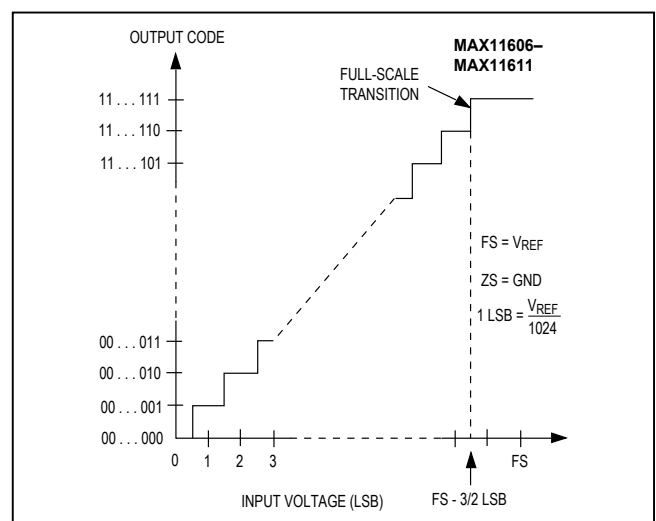
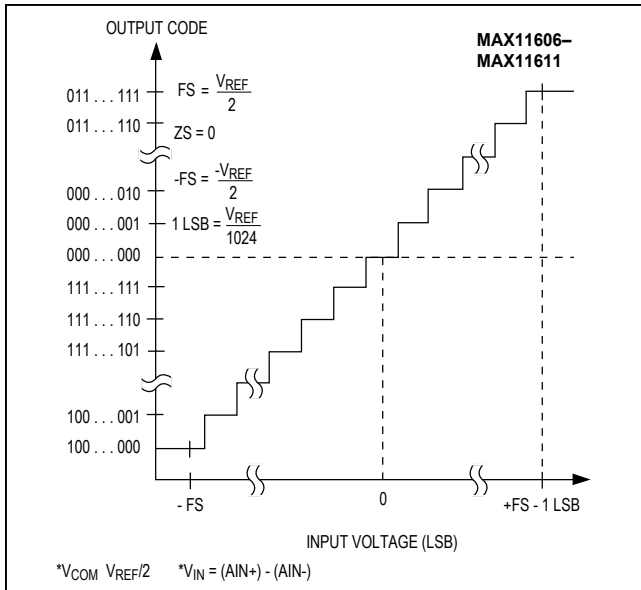

Figure 12. Unipolar Transfer Function
Figure 13. Bipolar Transfer Function
Output data coding for the MAX11606–MAX11611 is binary in unipolar mode and two’s complement in bipolar mode with 1LSB = (VREF/2N) where N is the number of bits (10). Code transitions occur halfway between successive-integer LSB values. Figure 12 and Figure 13 show the input/output (I/O) transfer functions for unipolar and bipolar operations, respectively.